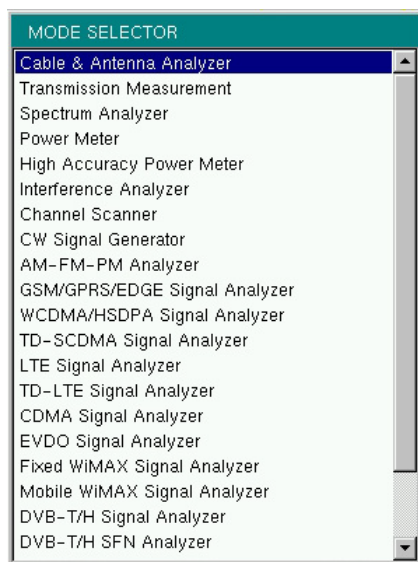

Figure 2-14. Mode Selector List Box
To change to another operation or measurement mode, press **Shift**, then the **Mode (9)** key to display the Mode Selector list box, illustrated in Figure 2-14. Use the directional arrow keys or the rotary knob to highlight the desired mode, then press **Enter** to switch to the selected application. The measurement modes available for selection depend on the options that are installed and activated on your instrument.